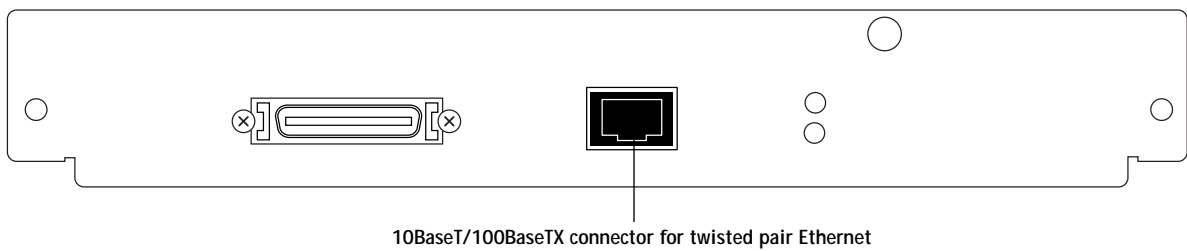

FIGURE 3-2 Fiery X3e network connector
Category 5 unshielded twisted pair (UTP) network cable must be used for 100BaseTX. It connects to the RJ-45 connector on the Fiery X3e (see Figure 3-2 on page 3-4).
2. **Connect the network cable to the RJ-45 connector on the Fiery X3e (see Figure 3-2 on page 3-4).**
The Fiery X3e can be connected to the network and to a parallel port device at the same time. See Figure 3-2 on page 3-4.
3. Connect a parallel (Centronics) cable to the 36-pin mini Centronics connector on the Fiery X3e (see Figure 3-2 on page 3-4).